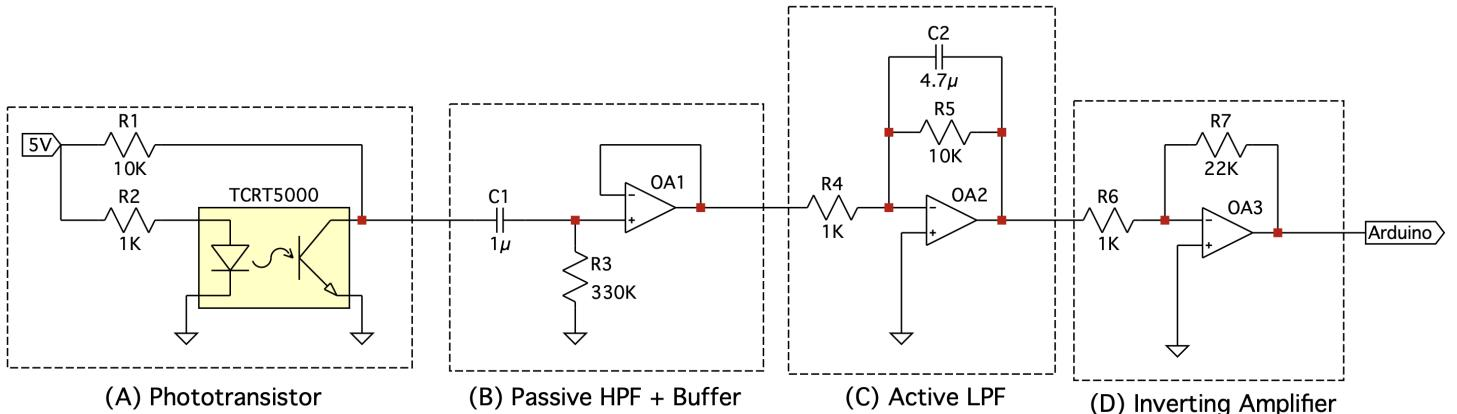

FIGURE 1
TCRT5000 is biased according to Fig.1 (A).
Capacitor of $1\mu F$ and Resistor of $330K\Omega$ is used. Passive HPF can be circuited as in Fig.1 (B). So the Cut-Off frequency of HPF is,
Resistor of (10KΩ and 1KΩ), Capacitor of $4.7\mu F$ and 2nd OPAMP of LM324N is used. The active LPF is circuited as in Fig.1 (B). The cut-off frequency of LPF is,
Resistor of (22KΩ and 1KΩ) and 3rd OPAMP of LM324N is used. Inverting Amplifier can be circuited as in Fig.1 (D).